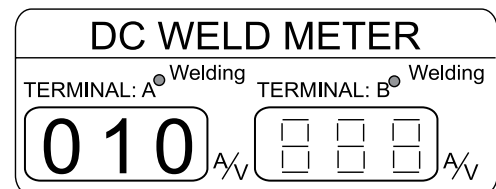

Figure 33. DC Weld Meter (Countdown)
- The DC welding meter will display the pre-heating countdown time value. The example shown in Figure 33 indicates 10 seconds before engine cranking can begin.